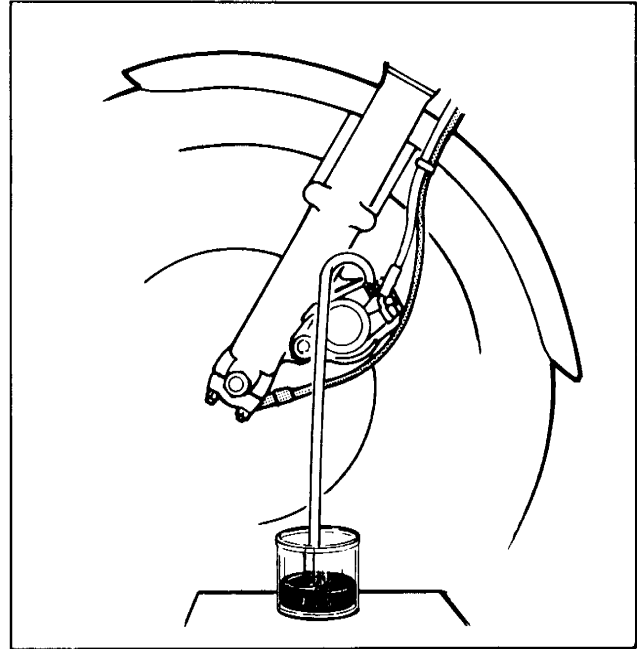

Figure 2-62. Bleeding Brakes
1. See Figure 2-62. Slip a piece of appropriate size clear plastic tubing over the brake caliper bleeder valve. Place the other end of the tubing into a clean container.